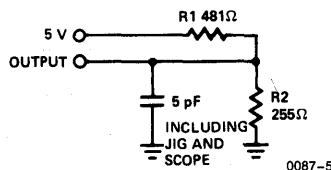

Figure 1b
- tHZOE, tHZCE and tHZWE are specified with CL = 5 pF as in *Figure 1b*. Transition is measured ± 500 mV from steady state voltage.